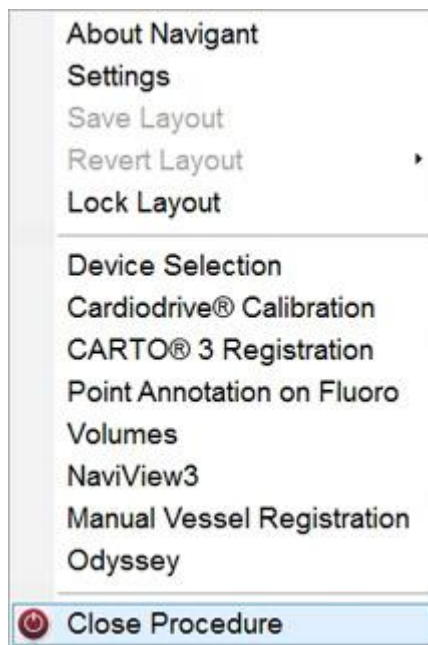
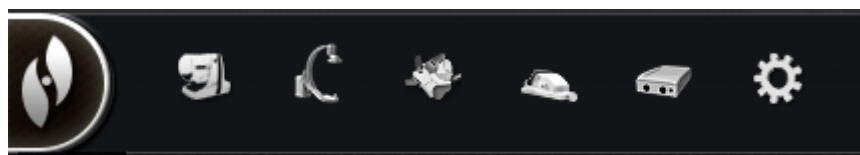

Figure 89. System Options menu example
Figure 93. System options button (**far left**) on hardware status toolbar
① System options. This button displays the System Options menu (**Figure 89**):
Note: For systems with Layout Editor, this option replaces the three “Layout” options visible in the Figure 89 example.
Access the System Options menu by clicking the **System Options** button on the hardware status toolbar (**Figure 93**). Several options display (see also **Figure 89**).
The About *Navigant* dialog displays information about the software, such as name, company name, patents, version number, and copyright (**Figure 94**). Access it from the System Options menu (system options button) on the hardware status indicator toolbar (see **Figure 93**).